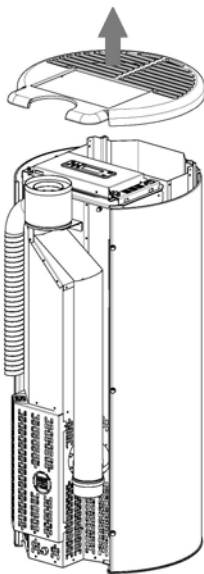

Fig. 27 - Top removal
- Remove the cast iron cover (see **Fig. 27**).